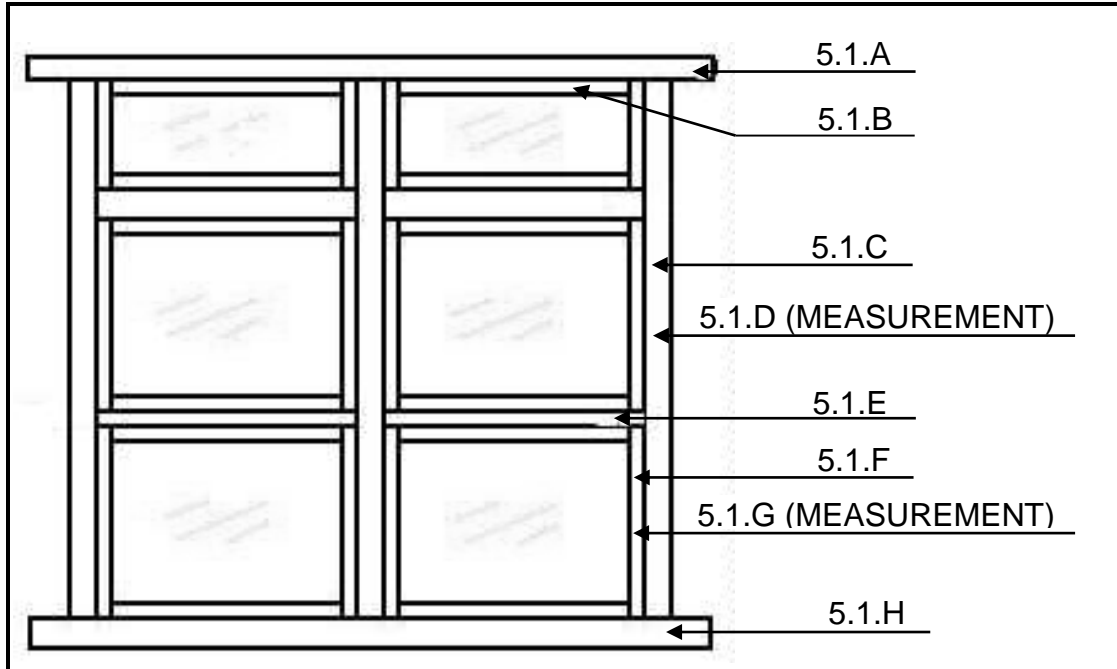

FIGURE 5.1
- 5.1 FIGURE 5.1 on ANSWER SHEET D shows a square pipe elbow. Use ANSWER SHEET D and develop and draw the development of the pipe elbow on scale 1 : 1. Show 4 mm for the seam allowance on both sides of the development. (12)
5.1 Name the parts and measurements 5.1.A to 5.1.H of the double casement window in FIGURE 5.1. (8)
5.1 FIGURE 5.1 on ANSWER SHEET D shows a square pipe elbow. Use ANSWER SHEET D and develop and draw the development of the pipe elbow on scale 1 : 1. Show 4 mm for the seam allowance on both side of the development. (12)